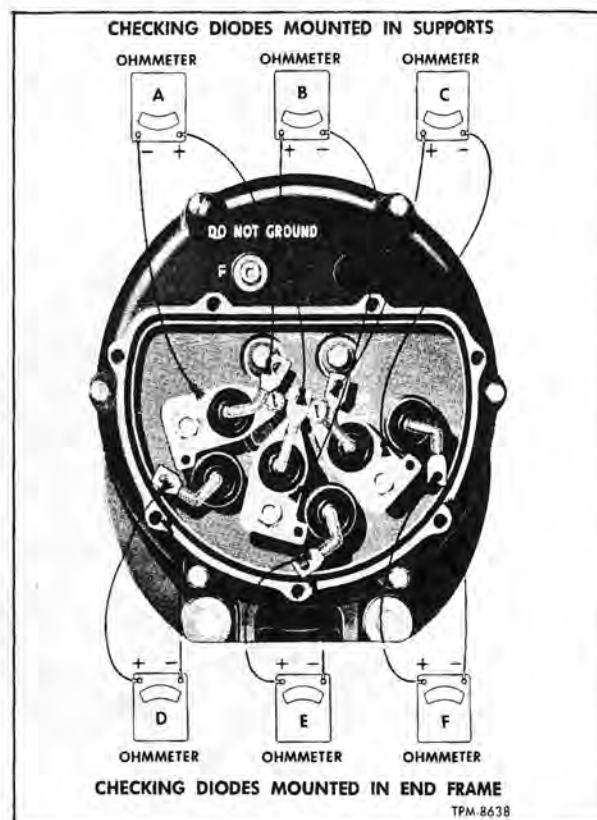

Figure 7—Checking Diodes For Shorts
3. Disconnect all diode flexible leads, three from output terminal stud and three from diode supports (fig. 7).
To check diodes mounted in supports, connect the positive lead of ohmmeter to each diode lead and the negative lead to each support as shown in parts A, B, and C of figure 7. If reading of 300 ohms or less is obtained, replace diode.
To check diodes mounted in end frame, connect the positive lead of ohmmeter to each diode lead and negative lead to end frame as shown in parts D, E, and F of figure 7. If a reading of 300 ohms or less is obtained, replace diode.